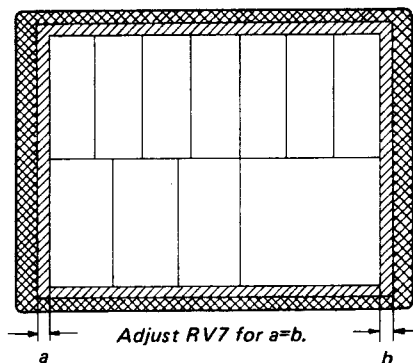

Fig. 5-169.
- (1) Make this monitor receive the color-bar signal (turn on the EIA on the signal generator) and set up the UNDER SCAN mode.
- (2) Set the BRIGHTNESS knob to MAX. Adjust RV7 on the E board so that the blanking width at the right and the left sides are equal to. (See Fig. 5-169.)